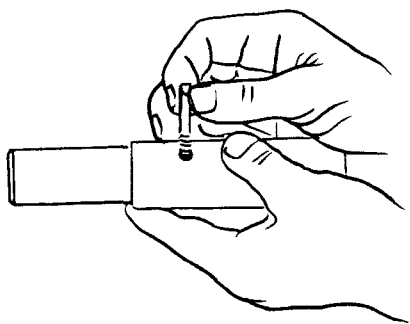

Figure 10
**23** Install spring and valve sleeve drive pin in shaft. spring first, see Fig. 10.